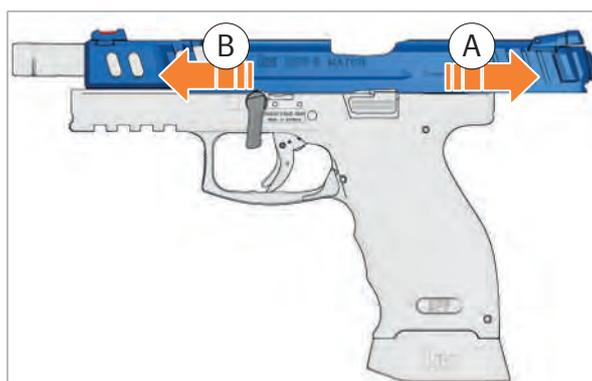

Fig. 58: Pushing slide from frame
4. Pull slide back and hold it (*Fig. 58*).
5. Move slide forwards slowly and push it from frame (*Fig. 58*).